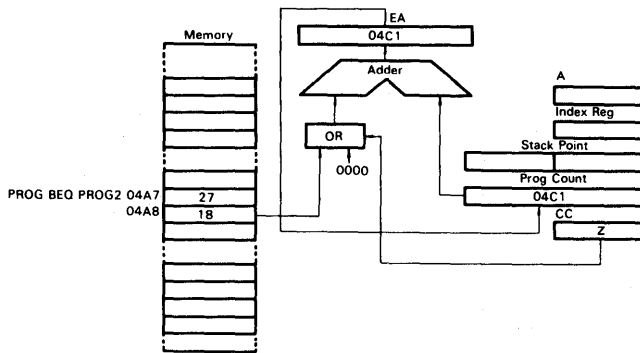

Figure 28 Example of Relative Addressing
See Fig. 28. The relative addressing mode is used with branch instructions only. When a branch occurs, the program counter is loaded with the contents of the byte following the operation code.  $EA = (PC) + 2 + Rel.$ , where Rel. indicates a signed 8-bit data following the operation code. If no branch occurs, Rel. = 0. When a branch occurs, the program jumps to any byte in the range +129 to -127. A branch instruction requires a length of 2 bytes.